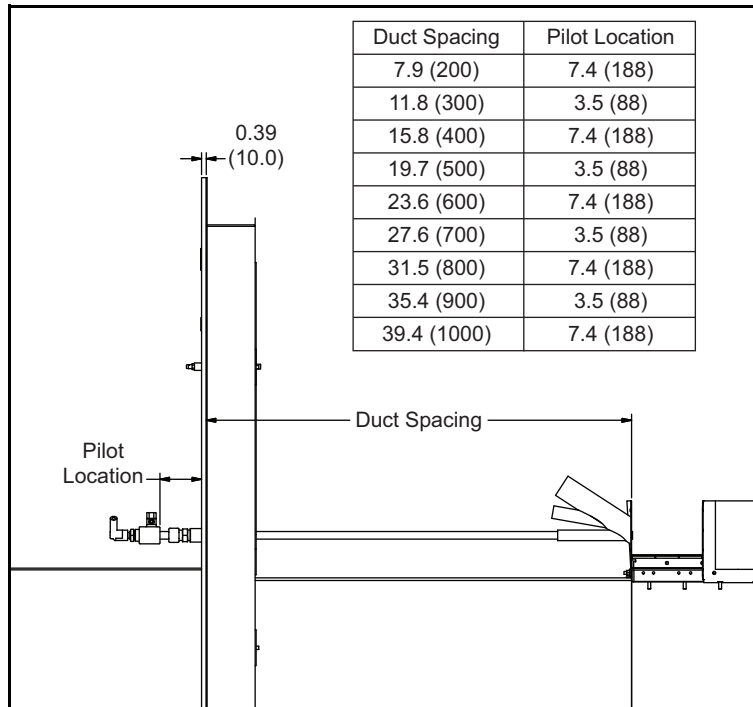

Figure 4.1. Pilot Location - All dimensions shown in inches (mm)
8. Verify the location of the pilot tube with respect to the end shield prior to installing the burner. Reference Figure 4.1 for proper pilot location.